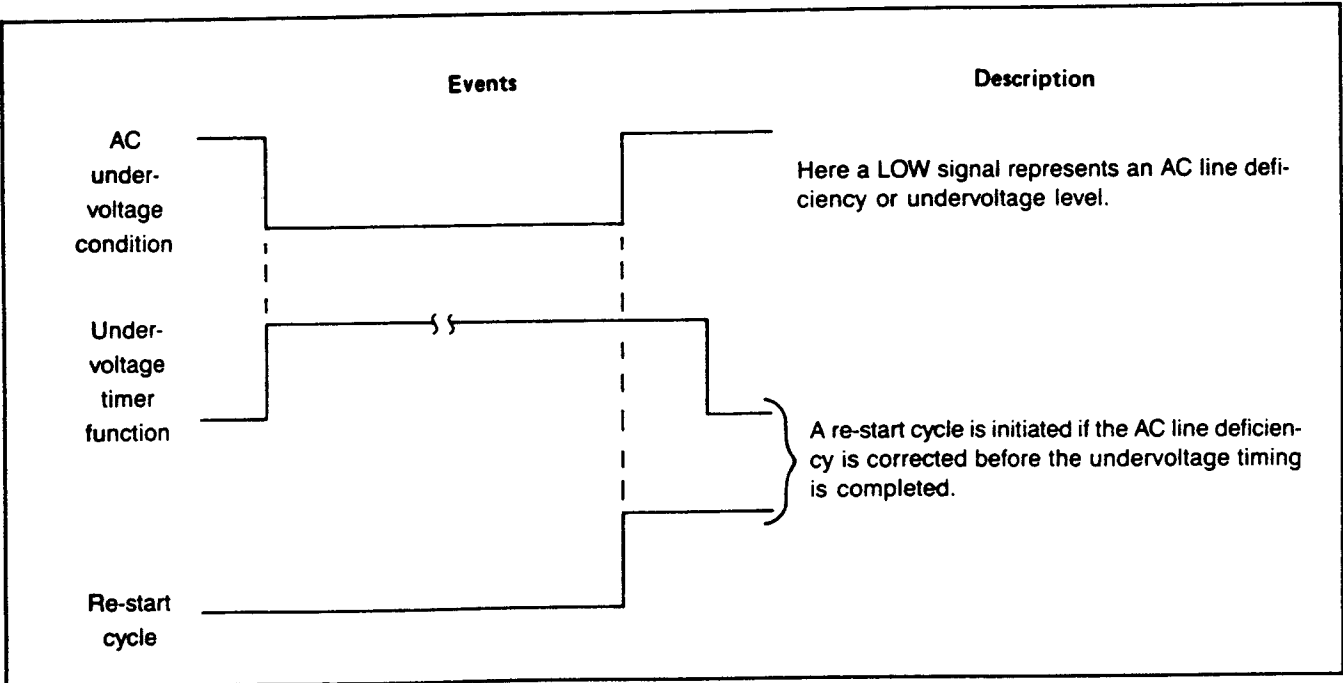

Figure 6.6 — Time Undervoltage Timing
6.20 Time Undervoltage — The time undervoltage function provides the capability to initiate a start cycle after the incoming AC supply is interrupted — that is, drops below 70% of the normal voltage. If the incoming AC supply is restored before the time undervoltage setpoint time has elapsed, a start cycle is initiated. This is utilized with a 3-wire momentary contact START/STOP pushbutton application, as shown in Figure 5.8. The time undervoltage timing is shown in the diagram of Figure 6.6.